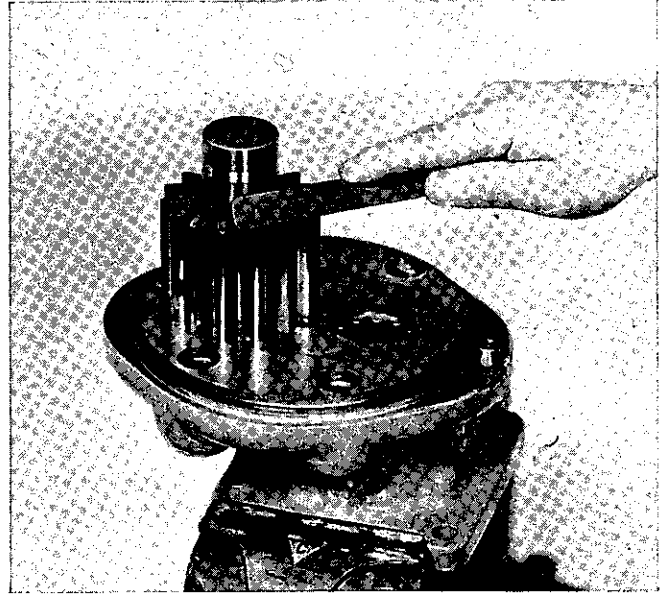

Figure 12
4. Inspect the edge of the gear teeth and gear face for scoring. Stone the face of the gears (See Figure 12) and edge of gear teeth before reassembly. We suggest the use of MF166 India File for this operation.